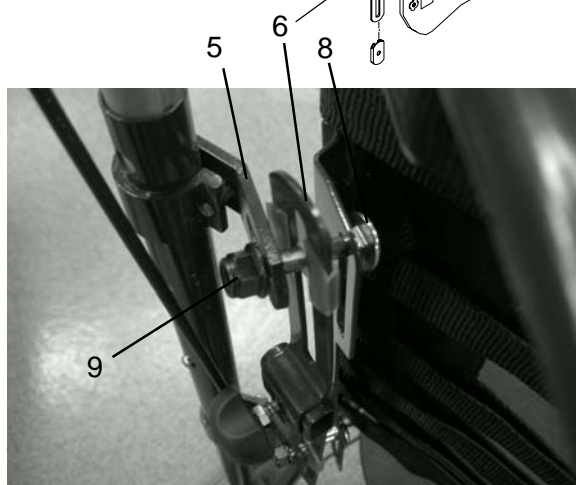

Figure 3
4. Secure the Flexi frame using the four screws (8), Figure 3, from the front of the frame through the vertical grooves on the frame and through the grooves on the fastening brackets of the back frame (5).
NB! The thoracic (trunk) support fastenings (6) must be positioned between the Flexi frame and the fastening brackets of the back frame as shown in Figure 3. If no thoracic support fastenings are used, use the four washers (7) included instead.
5. Attach the locking nuts (9), Figure 3; fit all four nuts before tightening them.